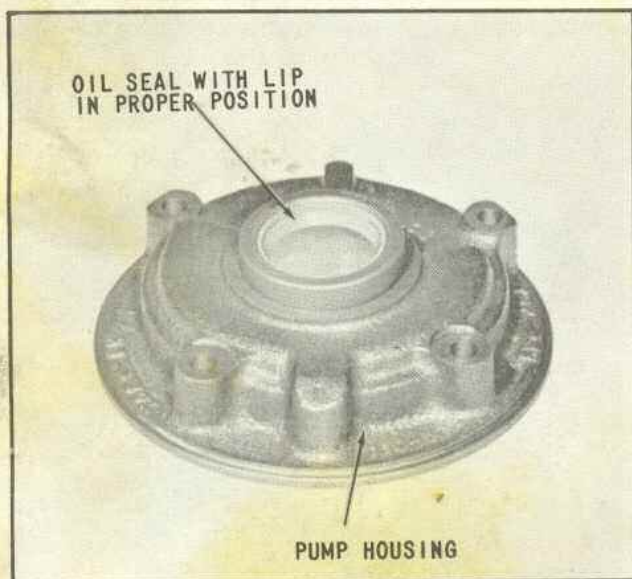

Fig. 63 Installing Pump Oil Seal
58. Place pump housing squarely on arbor press table. Apply a suitable sealant to the outside diameter of seal before installing squarely into bore of housing with seal lip positioned as shown in (Fig. 63). Caution should be observed to insure that too much sealant is not used, that any excess is wiped away after the seal is installed, and that the sealant does not get on the sealing element.